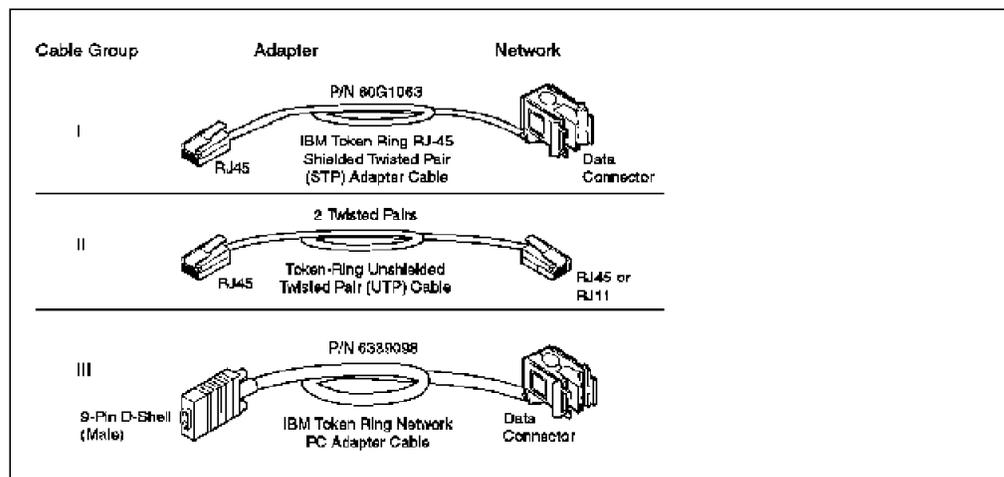

Figure 86. Different Types of Token-Ring Cabling
- Supports UTP and STP cabling, with RJ-45 and 9-pin D-shell connectors. See Figure 86.
- Supports UTP and STP cabling, with RJ-45 connectors. See Figure 86 on page 250.